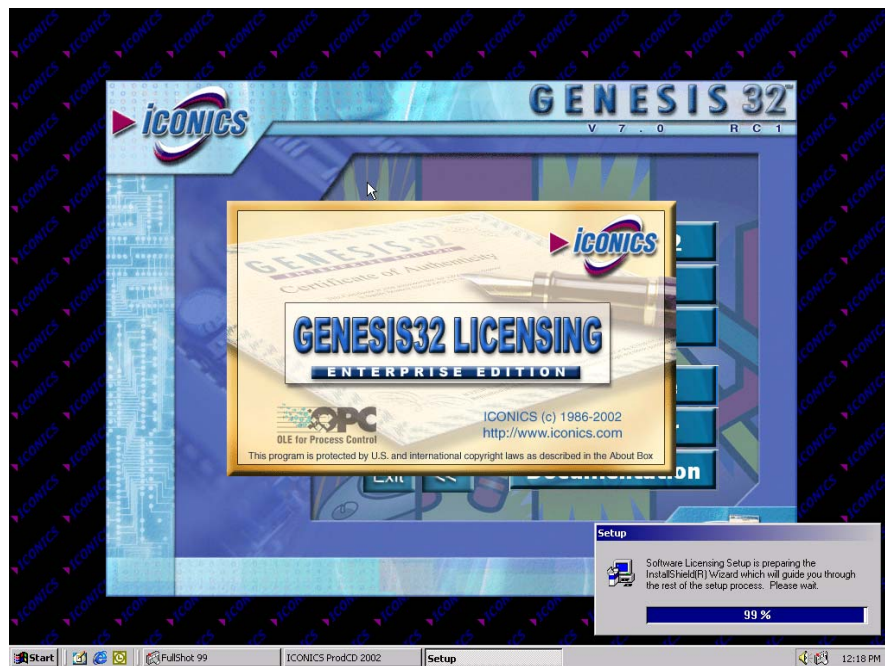

Figure 2.25
1. Click on the **Licensing** button on the first install window. The ICONICS Software Licensing will begin the process as in **Figure 2.25**.